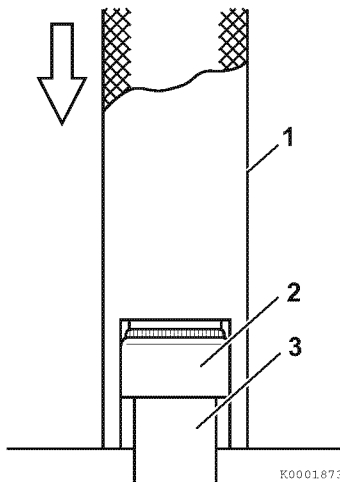

Figure 6-67
Exhaust valve and intake valve stem seals are different. They can be distinguished based on the paint marks on the outer side of the seal or the color of the seal spring (4, **Figure 6-67**). When installing each stem seal, take care to correctly position it.
1. Oil the lip of the valve stem seal (2, **Figure 6-67**). Using the valve stem seal installation tool (1, **Figure 6-67**), install a new valve stem seal on each of the valve guides (3, **Figure 6-67**).